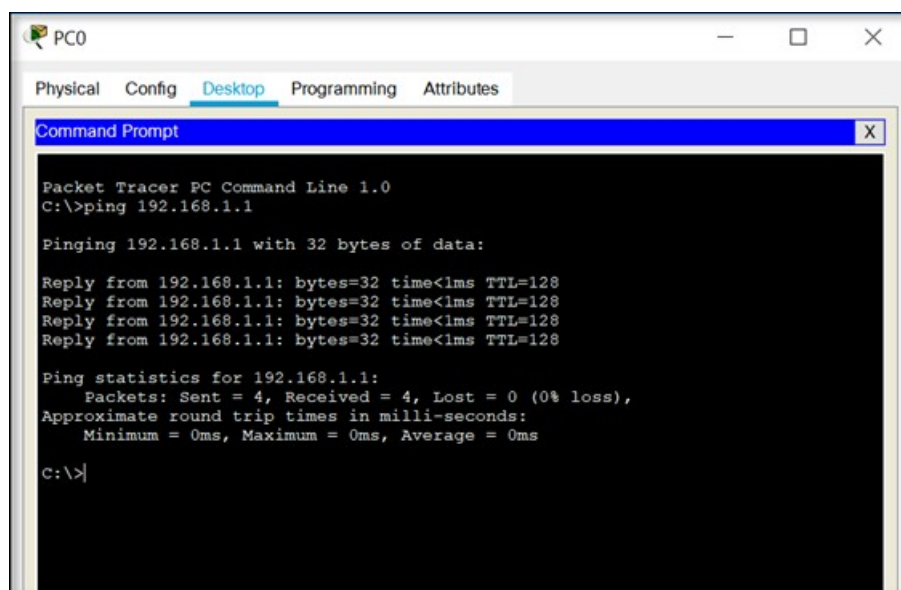

Figure 3.4: Successful Ping Test in Cisco Packet Tracer
- If everything is configured correctly, you should see *successful replies* (see Figure 3.4).